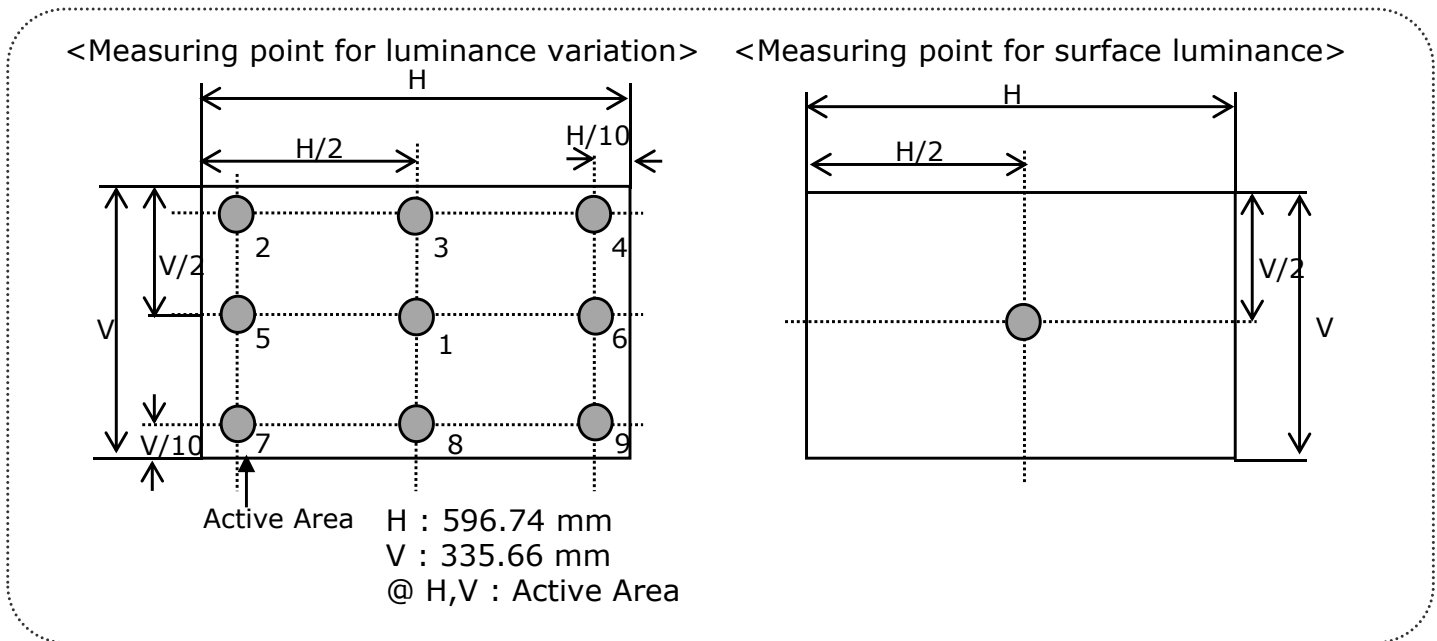

FIG. 5 Measure Point for Luminance
2. Surface luminance(L_{WH})is luminance value at 1 point across the LCD surface 50cm from the surface with all pixels displaying white. For more information see FIG 5.
For more information see FIG 5.
4. Response time is the time required for the display to transition from black to white (Rise Time, Tr_R) and from white to black (Decay Time, Tr_D). For additional information see FIG 5.